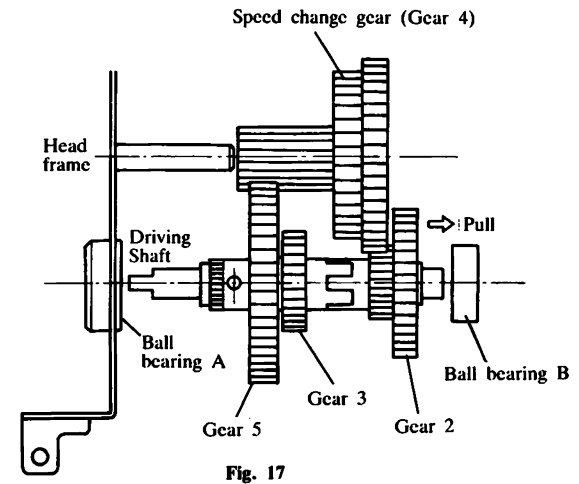

Fig. 17
- (2) Pull out both speed change gear and Driving shaft (with gear) simultaneously. The Ball bearing A is remained in the Head frame and the Ball bearing B will be in the gear box or on the Driving shaft. (Refer to Fig. 17)